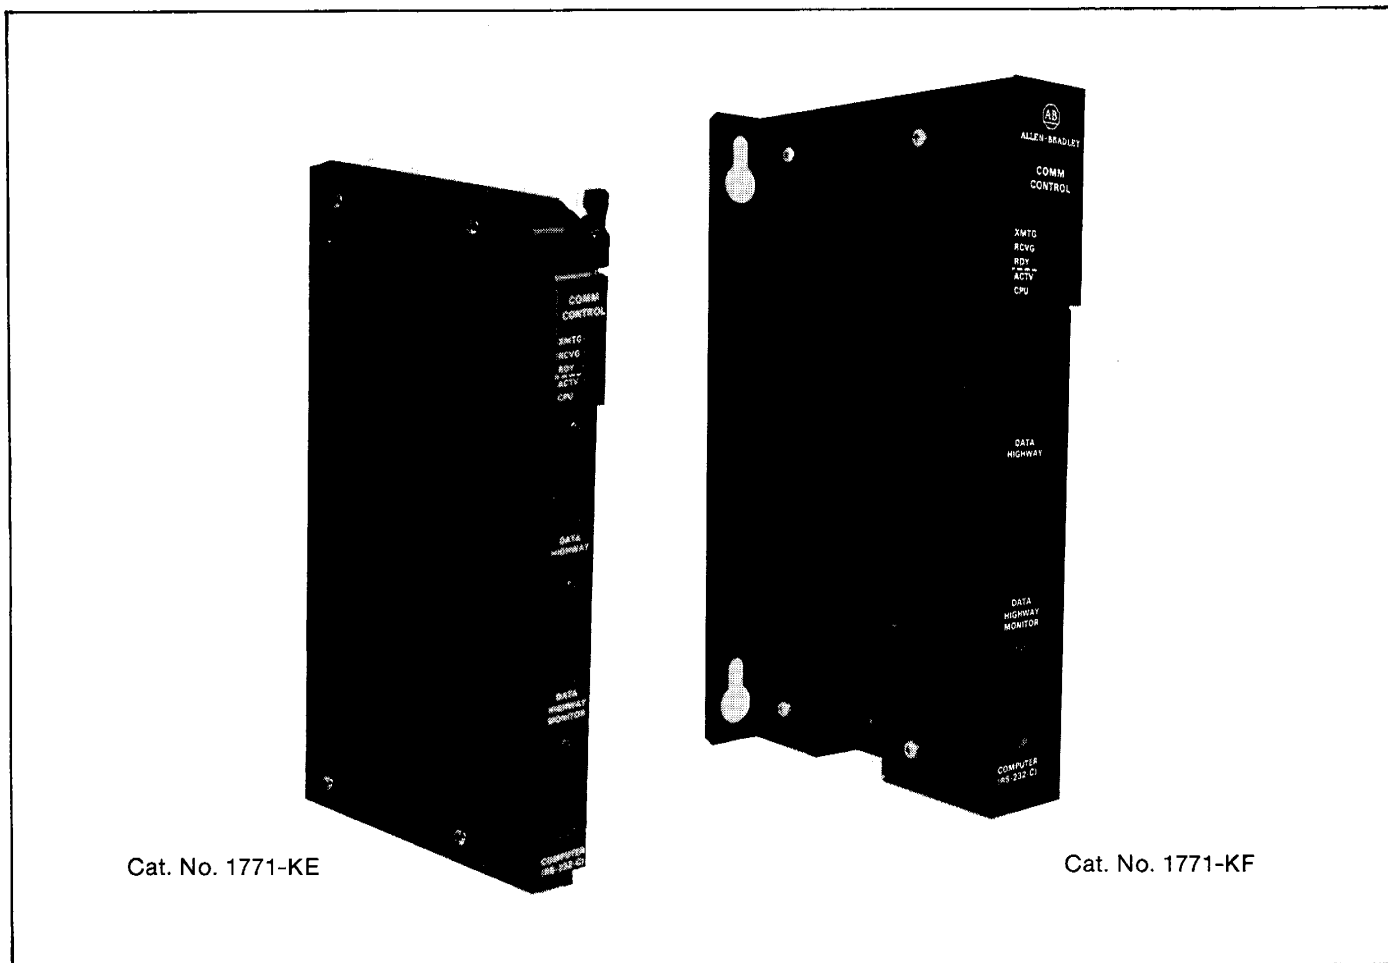

Figure 1.1 — Communication Controller Modules
1.2 Module Description Figure 1.1 shows both the 1771-KE and 1771-KF modules. These modules have the following hardware features: